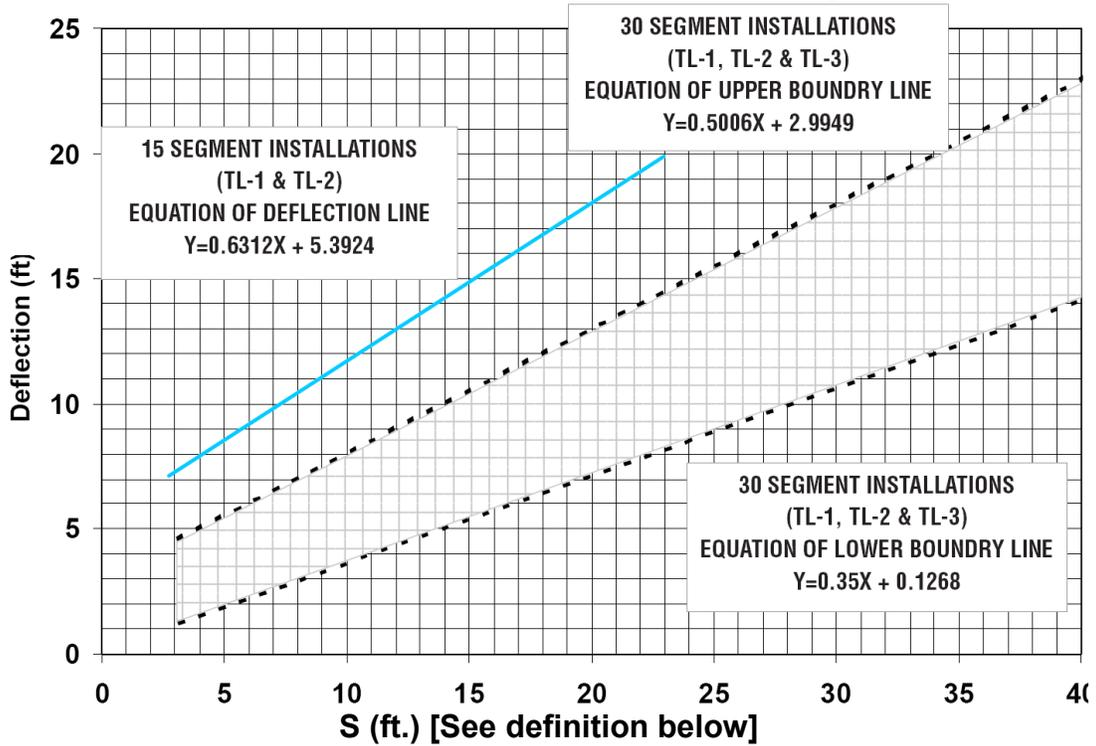

Figure 17c
**Using S, refer to the Figure 17c to determine the**